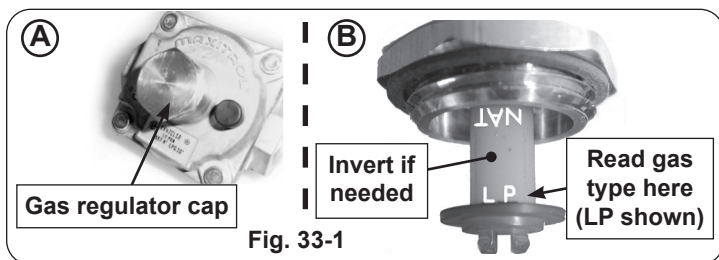

Fig. 33-1
**To check the regulator setting,** remove the cap in the center of the regulator (Fig. 33-1, A). Holding the cap vertical (see Fig. 33-2, B), the letters at the bottom of the plastic stalk indicate the gas type for which the regulator is currently configured.